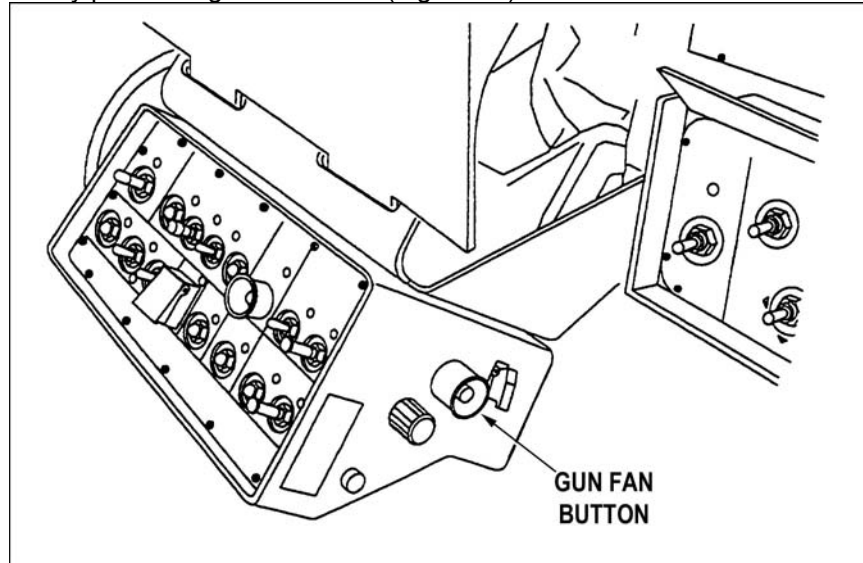

Figure 21. Gun fan button.
- (1) Remove the 25-mm gun guard and open the gun cover.
- (2) Push in feed select solenoid knob to select AP ammo or pull out knob to select HE ammo.
- (3) Close the gun cover and install 25-mm gun guard.
- c. Momentarily press the gun fan button (Figure 21).